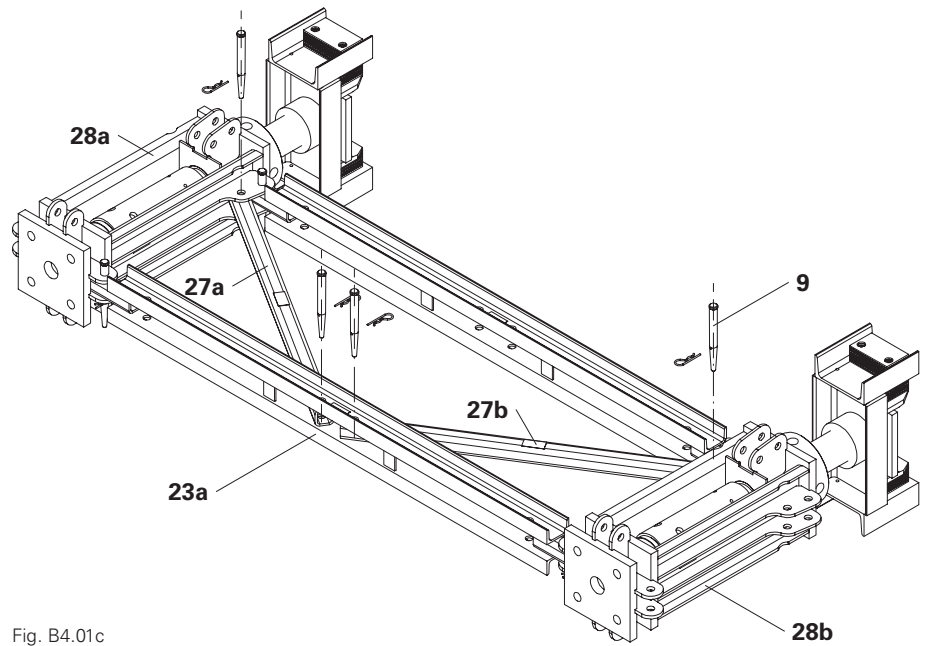

Fig. B4.01c
9. Connect the second diagonal strut VST 200/62.5 (**27b**) to the horizontal ledger VST (**23a**) using 1x fitting pin \varnothing 21 mm (**9**) and secure with cotter pin 4/1, galv. (Fig. B4.01c)